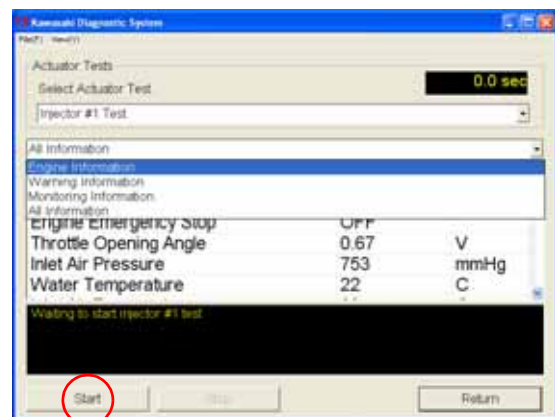

Fig. 6-19 Injector Test
- o Select **Start** to begin test (Fig. 6-19).